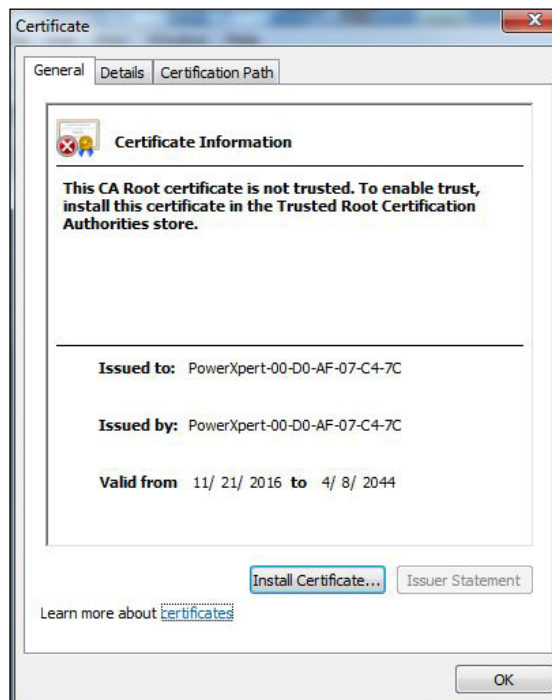

Figure 3: Certification Path Window.
4. In the Certificate dialog box, click the Install Certificate... button (see Figure 3).